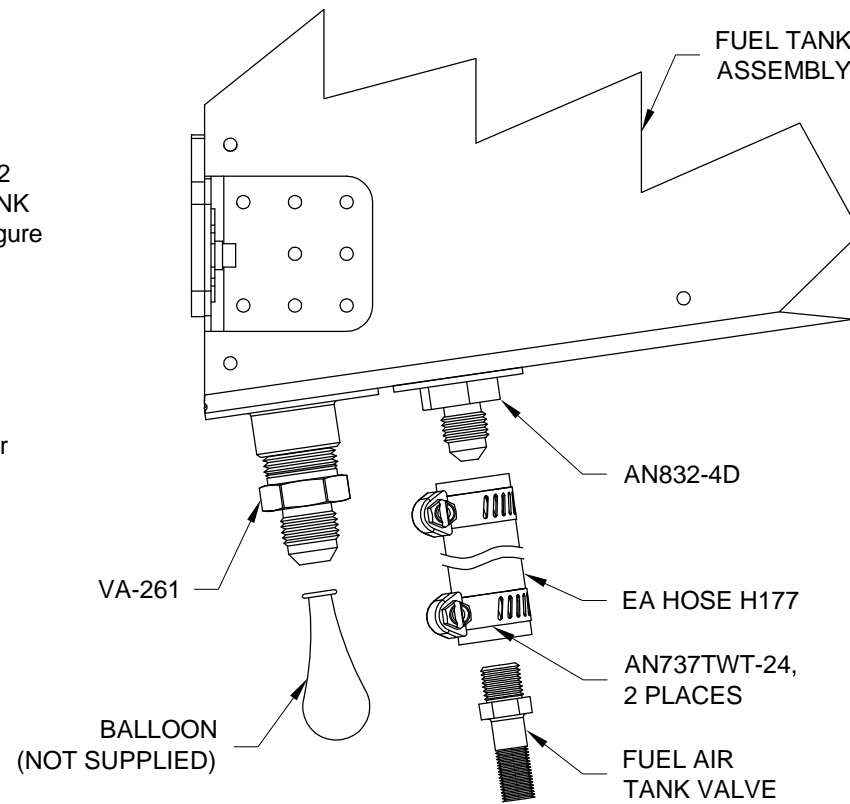

FIGURE 1: LEAK TEST
Step 15: Remove, then bevel the forward side of the T-01219B Fuel Vent Line as shown on Page 37-11 Figure 1.